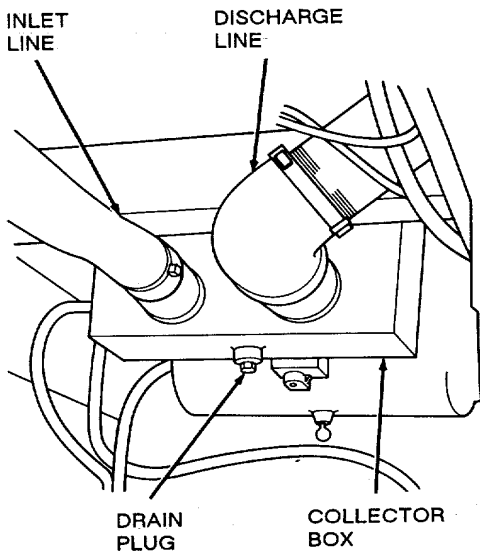

Figure 2-6. Collector Box.
- d. If freezing weather is expected, completely drain the water distributor tank, the pump tank, and the plumbing lines (see Figures 2-6 and 2-7).